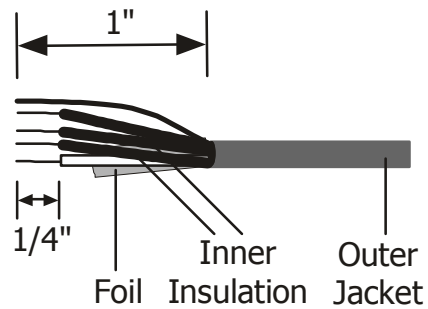

FIGURE 2. STRIPPING AN RNET WIRE
- Partially cut, then bend and pull off the wire's outer jacket so that you do not nick the inner insulation. See Figure 2.